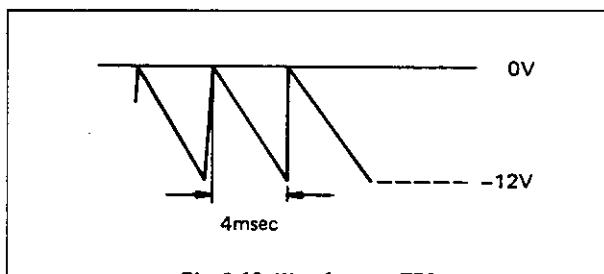

Fig. 6-19 Waveform at TP3
- (7) Check that the ramp signal as shown in Fig. 6-19 is observed at TP3.